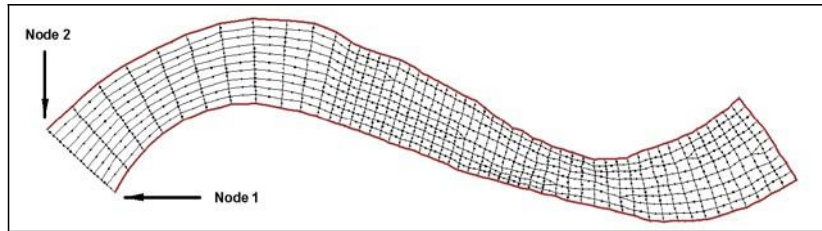

Figure 10 The nodestring to create for smoothing.
2. Click the node labeled *Node 1* in Figure 10.
3. Hold the *CTRL* key and double-click the node labeled *Node 2* in Figure 10. When holding the *CTRL* key, *SMS* creates a nodestring counter-clockwise around the mesh boundary from the first node to the second node.